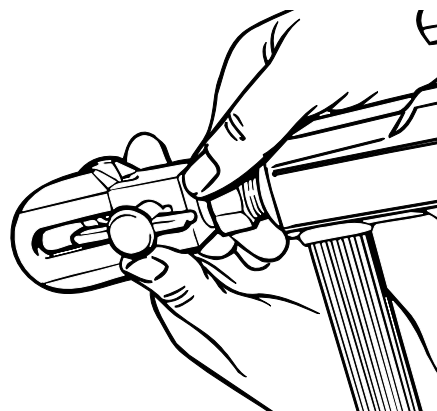

Figure 29 - Reverse Tip
2. Rotate the reversible tip cylinder arrow 180° so the point of the arrow is toward the rear of the gun. Figure 29.